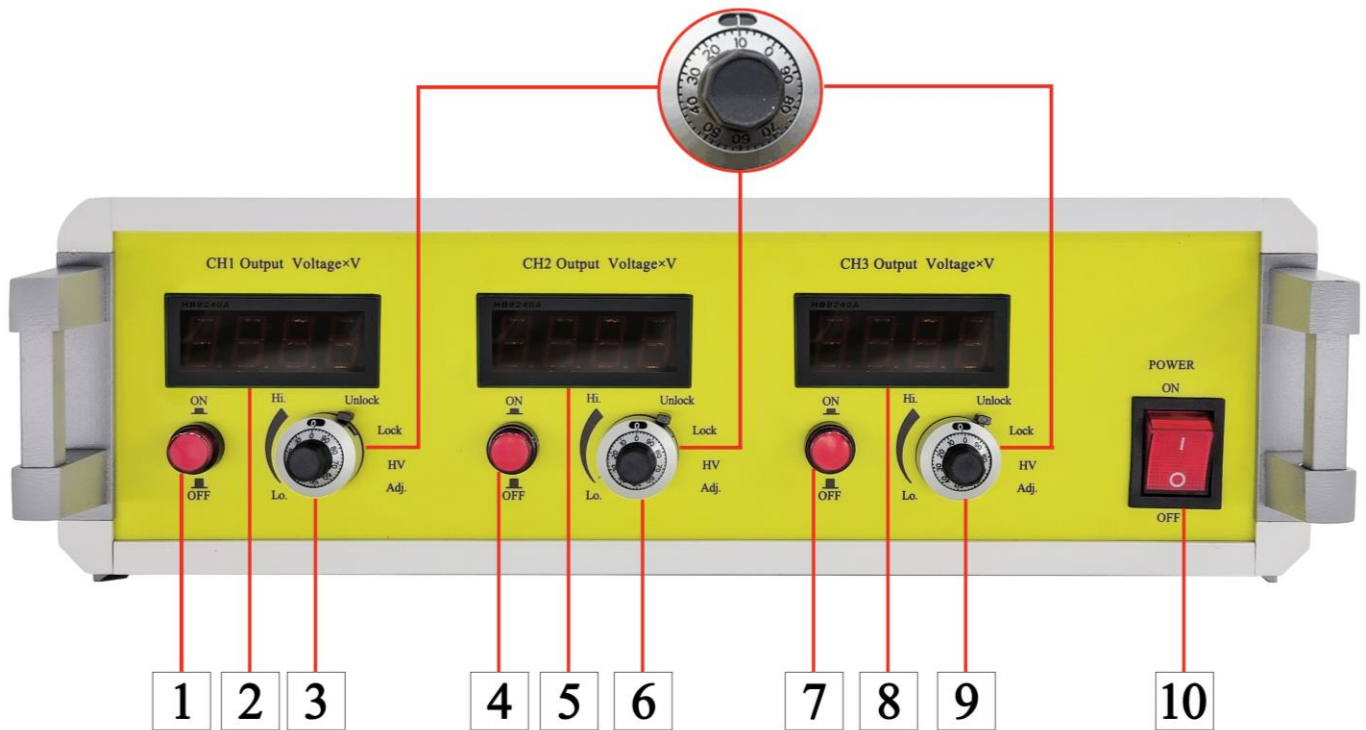

Figure 2. Front Panel
3. CH1 HV adjustment: 10-turn potentiometer for adjusting output voltage. Rotate it clockwise to increase the output voltage, and the potentiometer resistance = the corresponding scale  $\times 20\Omega + N \times 2k\Omega$ . The number of turns (N) is shown in the frame above the scale. For example, as Figure 2 shows, when the scale is 10, and the frame above the scale shows 1 (2k $\Omega$ ), then the resistance =  $10 \times 20\Omega + 1 \times 2k\Omega = 2.2k\Omega$ , and the like.
6. CH2 HV adjustment: 10-turn potentiometer for adjusting output voltage. Rotate it clockwise to increase the output voltage, and the potentiometer resistance = the corresponding scale  $\times 20\Omega + N \times 2k\Omega$ . The number of turns (N) is shown in the frame above the scale. For example, as Figure 2 shows, when the scale is 10, and the frame above the scale shows 1 (2k $\Omega$ ), then the resistance =  $10 \times 20\Omega + 1 \times 2k\Omega = 2.2k\Omega$ , and the like.
- 9. CH3 HV adjustment: 10-turn potentiometer for adjusting output voltage. Rotate it clockwise to increase the output voltage, and the potentiometer resistance = the corresponding scale  $\times 20\Omega + N \times 2k\Omega$ . The number of turns (N) is shown in the frame above the scale. For example, as Figure 2 shows, when the scale is 10, and the frame above the scale shows 1 (2k $\Omega$ ), then the resistance =  $10 \times 20\Omega + 1 \times 2k\Omega = 2.2k\Omega$ , and the like.